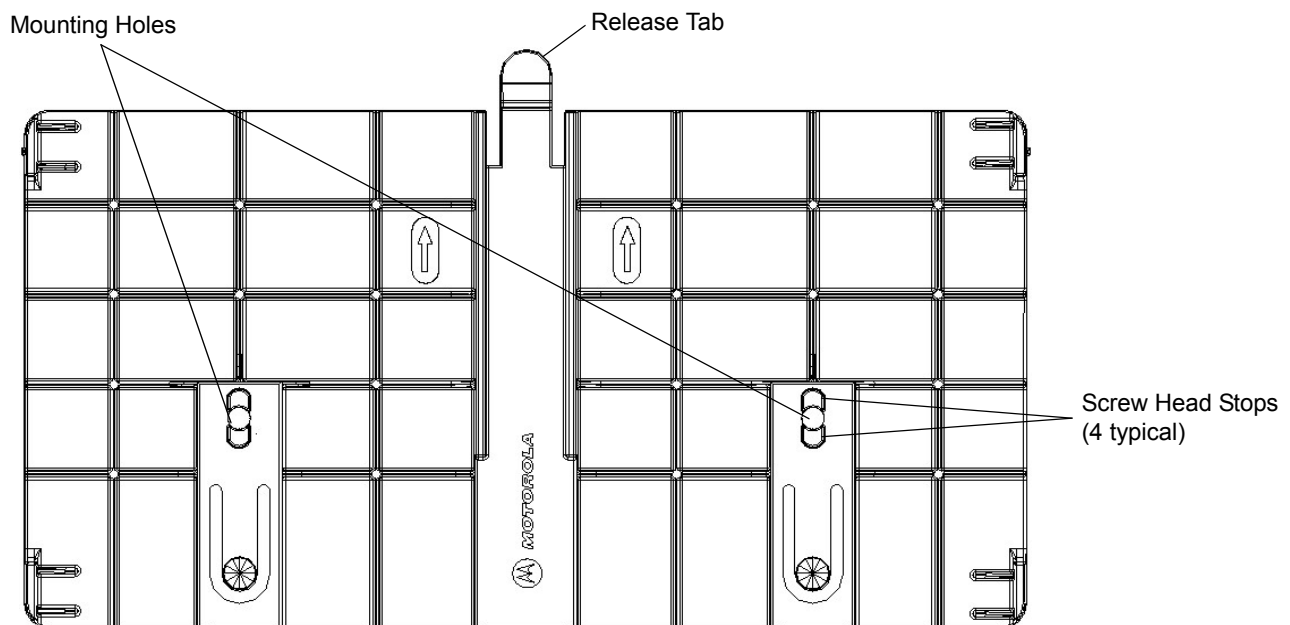

Figure 3-1 Mounting Plate, Front
1. Position the mounting plate on a flat surface (wall or shelf). Position the release tab on the top. See Figure 3-1.
2. Mark the hole locations using the mounting plate as a guide. See Figure 3-1. Remove the mounting plate and drill holes (appropriate for the surface material) at the marked locations.
CAUTION Use a hand screw driver to install the mounting plate (do not use a power driver). Do not use excessive torque, and tighten the screws so that they are just snug on the screw head stops (see Figure 3-1). If the reader does not engage the mounting plate, loosen the screw(s) 1/8 to 1/4 turn and try again.
4. Position the reader by aligning the markers on the metal base plate and the wall bracket, positioning the key-slot holes over the mounting screws. Gently slide the reader down (see Figure 3-1) to lock into place.